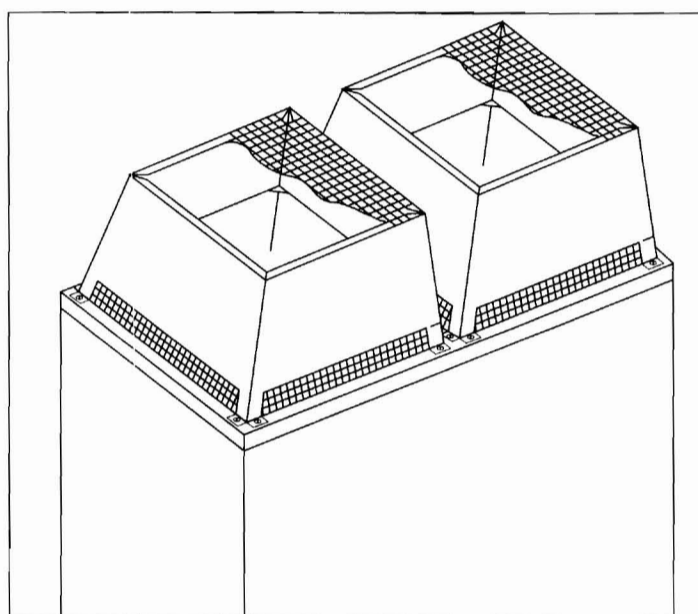

Figure 5
5. The installation will now look similar to that shown in Figure 5.